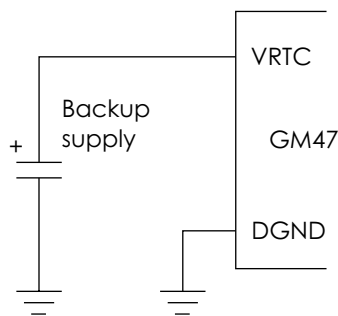

Figure 2.7 RTC connections
- RTC back-up mode: VCC is disconnected and the RTC is maintained by a separate backup power supply connected to the VRTC input (see Figure 2.7 below).